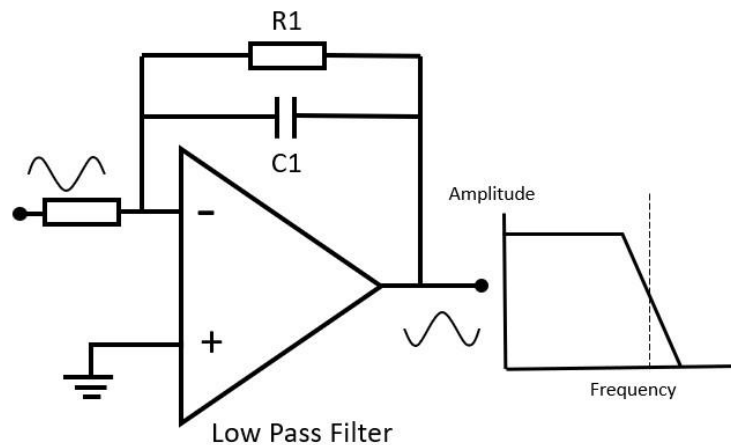

Figure 10: Low Pass Filter.
9. **The Low pass filter** is a unity gain amplifier passing the frequencies lower than that determined by  $R_1$  and  $C_1$  (Figure 10).